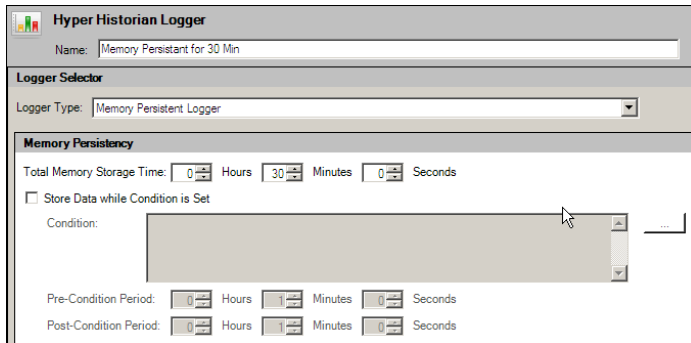

Figure 2 - Configuration to Keep Data for 30 Minutes in RAM
5. In the Memory Persistency section, the default Total Memory Storage time is already set to 30 minutes, so you don't need to change anything in this case. But if you would like it to keep data for a different length of time, here is where you would change it. To keep data for 30 minutes, your finished configuration should look like Figure 2.